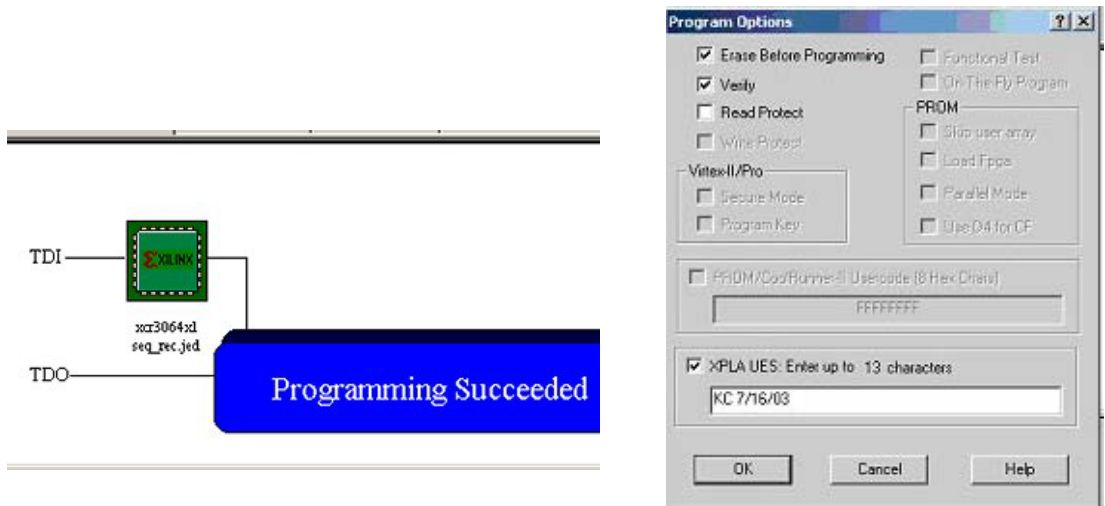

Figure 6; iMPACT window and options for CPLD configuration.
- Programming the device; Browse for the file sequence.jed in your project directory using the resulting window from previous step. Click **Ok**. Click on the Xilinx chip to highlight it and go to **Operations** → **Program**. Figure 6 shows the result of this operation and the options that must be selected. Click **Ok**.
Note: By checking the option **Read Protect** on **Program Options** window (figure 6) we disable the CPLD design from being read back. This is particular useful for intellectual property protection. At the bottom of **Program Option** window there is a check for XPLA UES. UES